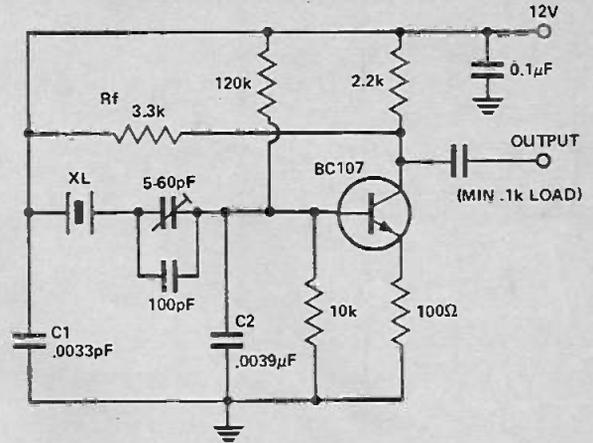
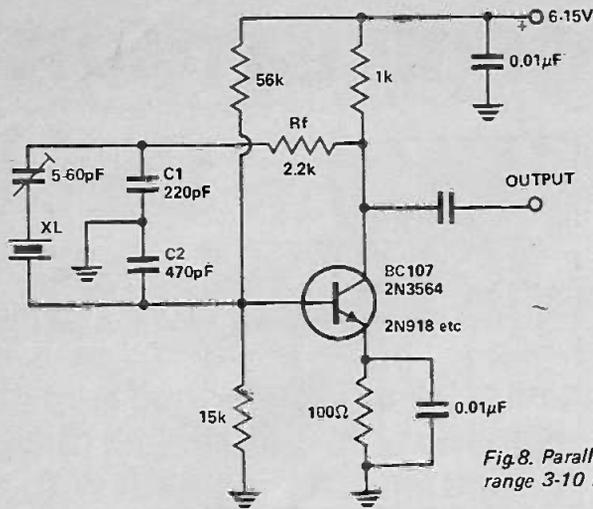

Fig. 6. Parallel mode L.F. oscillator.
Fig.8. Parallel oscillator for the range 3-10 MHz.
The circuit in Fig. 6 is also described by Lane (3) and can be recognised as a modified form of the Colpitts oscillator, with the addition of resistor Rf to control feedback (it works the same way as Eno's). Capacitors C1 and C2 should be reduced by preferred values as the frequency is increased. At 500 kHz, values for C1 and C2 should be around 100 pF and 1500 pF respectively.
A useful oscillator for the range 3 to 10 MHz that does not require a tuned circuit is given in Fig. 8 (a). It is, of course, the same circuit as Fig. 6. The circuit can be used down to 1 MHz if  $C_1$  and  $C_2$  are increased to 470 pF and 820 pF respectively. It can be used up to 15 MHz if  $C_1$  and  $C_2$  are reduced to 120 pF and 330 pF. Respectively. This circuit is recommended for non-critical applications where high harmonic output is wanted, or not a consideration.
This circuit (Fig. 8) can also be turned into a very effective VXO. A small inductance is placed in series